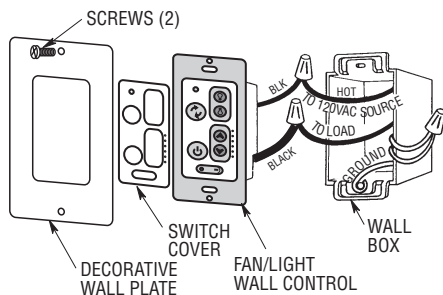

Figure 7
- ❑ 4. Connect one black wire of wall control to the "hot" wire. Securely connect wires with wire connectors supplied (Figure 7).
- ❑ 7. The wall control is supplied with a white, ivory, and almond color switch covers. Choose the finish that best suits your needs and snap the cover onto the wall control (Figure 7).
- ❑ 8. Install decorator wall plate (purchased separately) using the two screws provided with wall plate. Leave wall control in "OFF" mode until fan installation is completed (Figure 7).
- 7. The wall control is supplied with a white, ivory, and almond color switch covers. Choose the finish that best suits your needs and snap the cover onto the wall control (Figure 7).